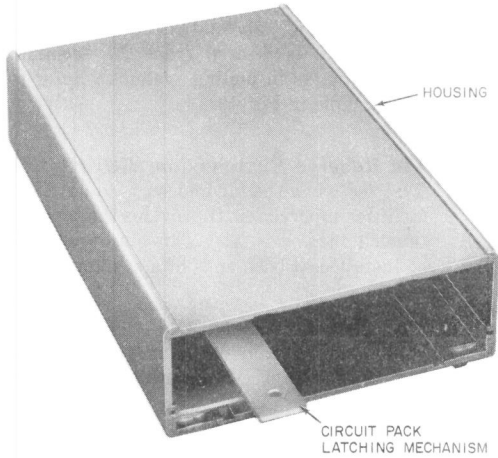

Fig. 8—DS 108F or G Housing
- (1) Remove the front and rear covers by gently squeezing on top and bottom and pulling.
- (2) Release the circuit pack latching mechanism of the data mounting (Fig. 8).